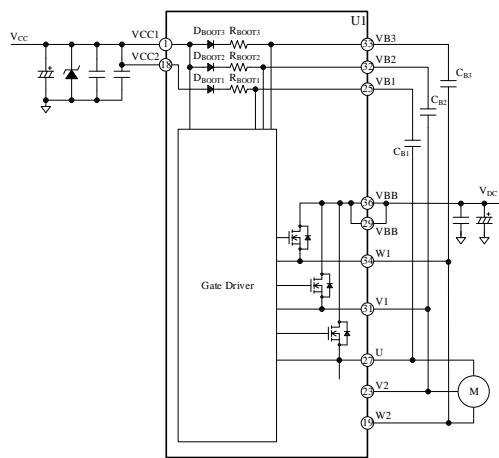

Figure 10-11. Bootstrap Circuit
As Figure 10-11 shows, a bootstrap diode,  $D_{BOOTx}$ , and a current-limiting resistor,  $R_{BOOTx}$ , are internally placed in series between the  $VCCx$  and  $VBx$  pins. Time constant for the charging time of  $C_{Bx}$ ,  $\tau$ , can be computed by Equation (3):